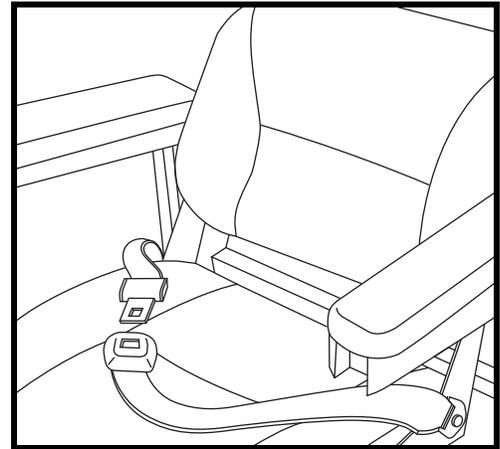

Figure 22. Positioning Belt
1. Insert the metal tab on the right side of the belt into the plastic housing on the opposite strap until you hear a “click.” **See figure 22.**